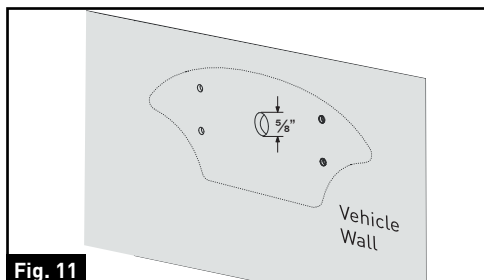

Fig. 11
2. Drill a $\frac{5}{8}$ " center hole on the vehicle wall using a $\frac{5}{8}$ " hole saw. (Fig. 11)